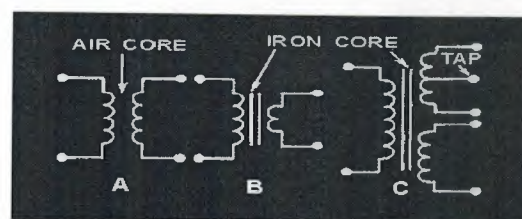

Figure 1.6.7. - Schematic symbols for various types of transformers
Shows typical schematic symbols for transformers in figure 5.7. The symbol for an air-core transformer is shown in figure 1.6.7 (A). Parts (B) and (C) show iron-core transformers. The bars between the coils are used to indicate an iron core. Frequently, additional connections are made to the transformer windings at points other than the ends of the windings.